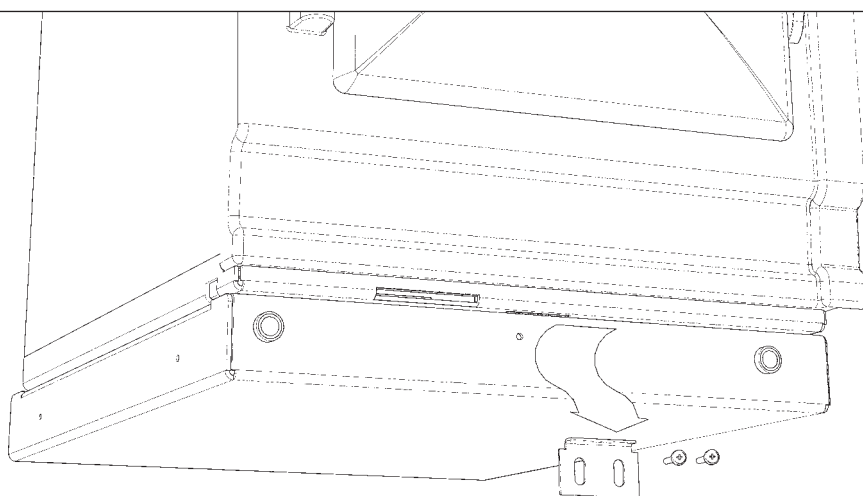
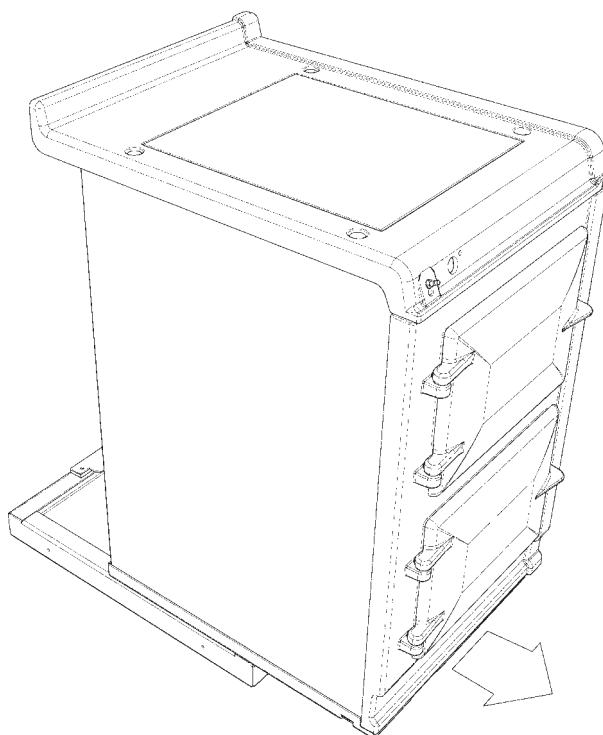

Fig. 17.1
Fig. 17.2
1. Detach hotcupboard from plinth by removing two screws and tongue bracket from plinth (**Fig. 17.1**), slide hotcupboard forwards and away from rear fixing bracket (**Fig. 17.2**).